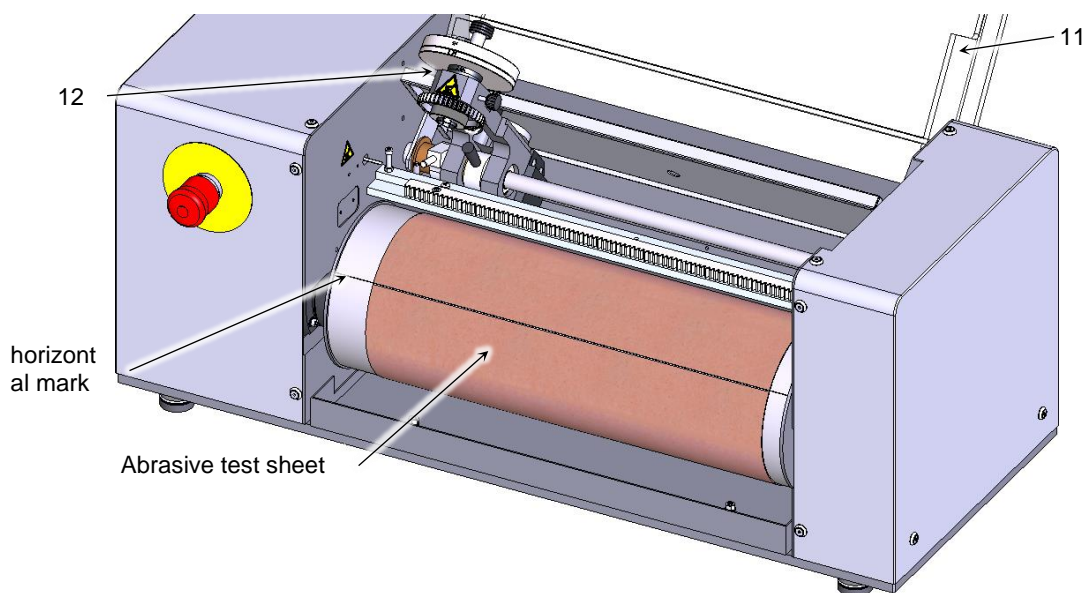

Abb. 4 Setting up and exchange of the abrasive test sheet
- Open the protection cover (11, Fig. 4).
- Pivot the specimen holder (12, Fig. 4) to the rear.